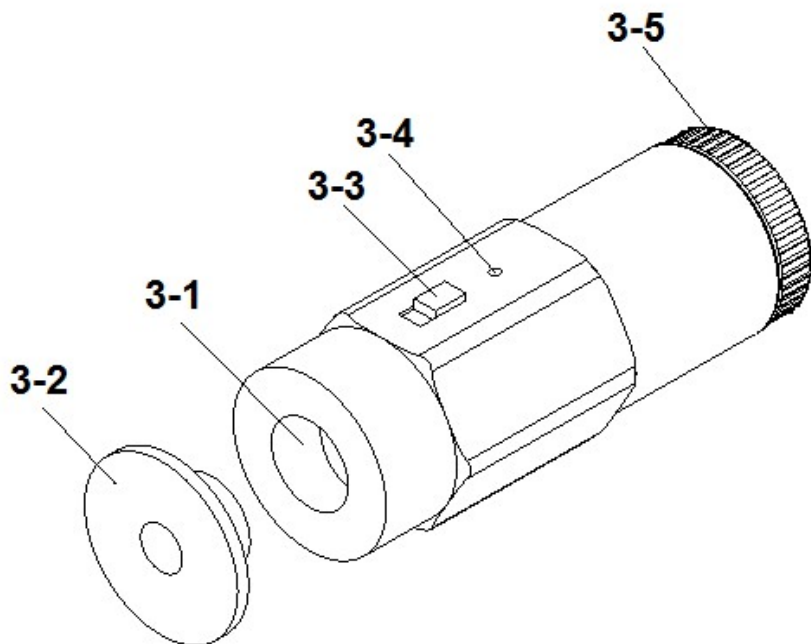

Fig. 1
- 1) Slide the " ON/OFF Switch " (3-3, Fig. 1) to " 1 " position to power on the sound level calibrator.
- 2) If the calibrated " SOUND LEVEL METER " used the 0.5" microphone, then on the " Couple Section " (3-1, Fig. 1) should install the " 0.5" Mic. Adapter " (3-2, Fig. 1) first.
If the calibrated " SOUND LEVEL METER " used the 1 inch microphone, then on the " Couple Section " (3-1, Fig. 1) should take away the " 0.5" Mic. Adapter " .
Under the normal operation, slide " 0 /BAT. TEST/ 1 Switch " (3-3 , Fig. 1) to the "BAT. TEST " position, the " Power/Low Battery Indicator " (3-4, Fig. 1) will light up, then the battery voltage is normal.
- 1) Take away the " Battery Cover " (3-5, Fig. 1).